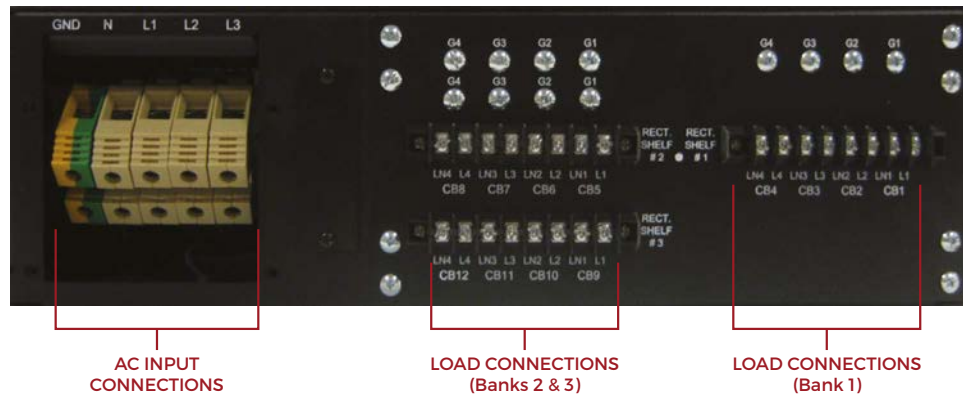

Figure 4. Back Panel View
9.1 Back View. Figure 4 shows the back of the PDUAC3U. Inputs are at the left hand end. The outputs are to the right of this and consist of three barrier strips with associated ground screws. There are sufficient connections for connecting to a total of 3 rectifier shelves, each with 4 separate AC inputs.
9.3 Output Connections. Output connections are shown in Figure 4. There are 3 sets of barrier strip terminals. The connections are numbered to correspond with the numbers of the front panel breakers. Each barrier strip is intended for making output connections to a single rectifier shelf. Above the barrier strips are separate screws which are used to make the ground connections.